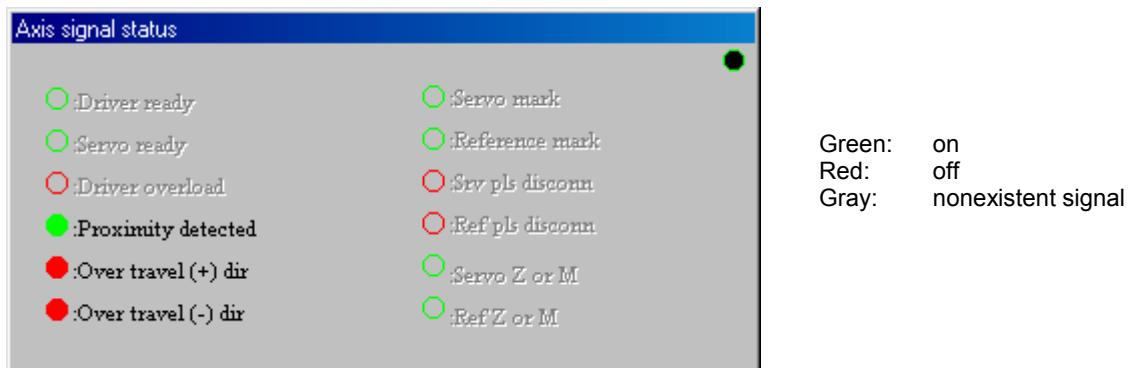

Figure 8.12 “Axis signal status” dialog box
(3) Axis signal status display
In the “Terminal” menu, click “Axis signal status (A)” under “Monitor” to display the “Axis signal status” dialog box (see Figure 8.12).